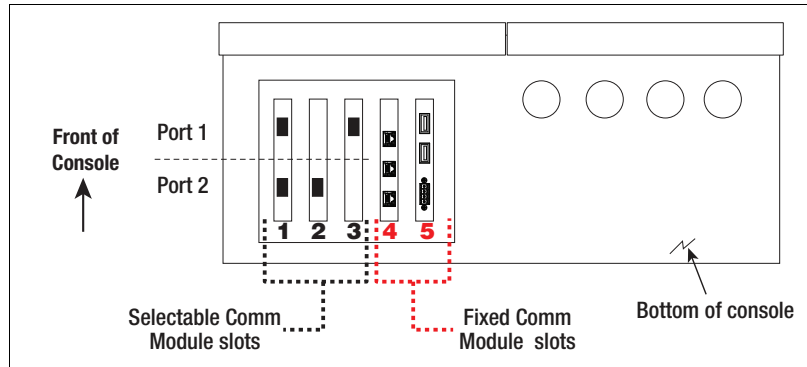
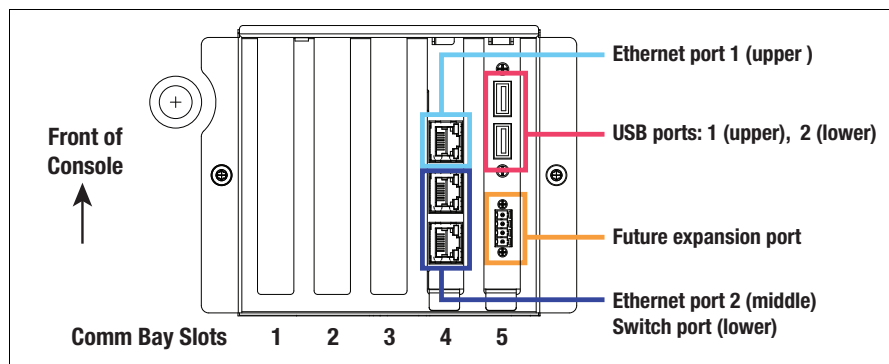

Figure 4. TLS-450PLUS Console - Selectable Comm Modules
Figure 5. TLS-450PLUS Console - Fixed Comm Modules
1. The Comm Bay is divided into 5 slots numbered from 1 to 5 going from left to right. Only slots 1-3 are available for user-selectable Comm Modules (Figure 4). Slots 4 and 5 are fixed and can not be changed (see Figure 5).
User-selectable Comm Port configurations will depend on features ordered. Slots 1-3 (Figure 4) can be used for any combination of Comm Modules found in Table 2 or Table 3 as appropriate.